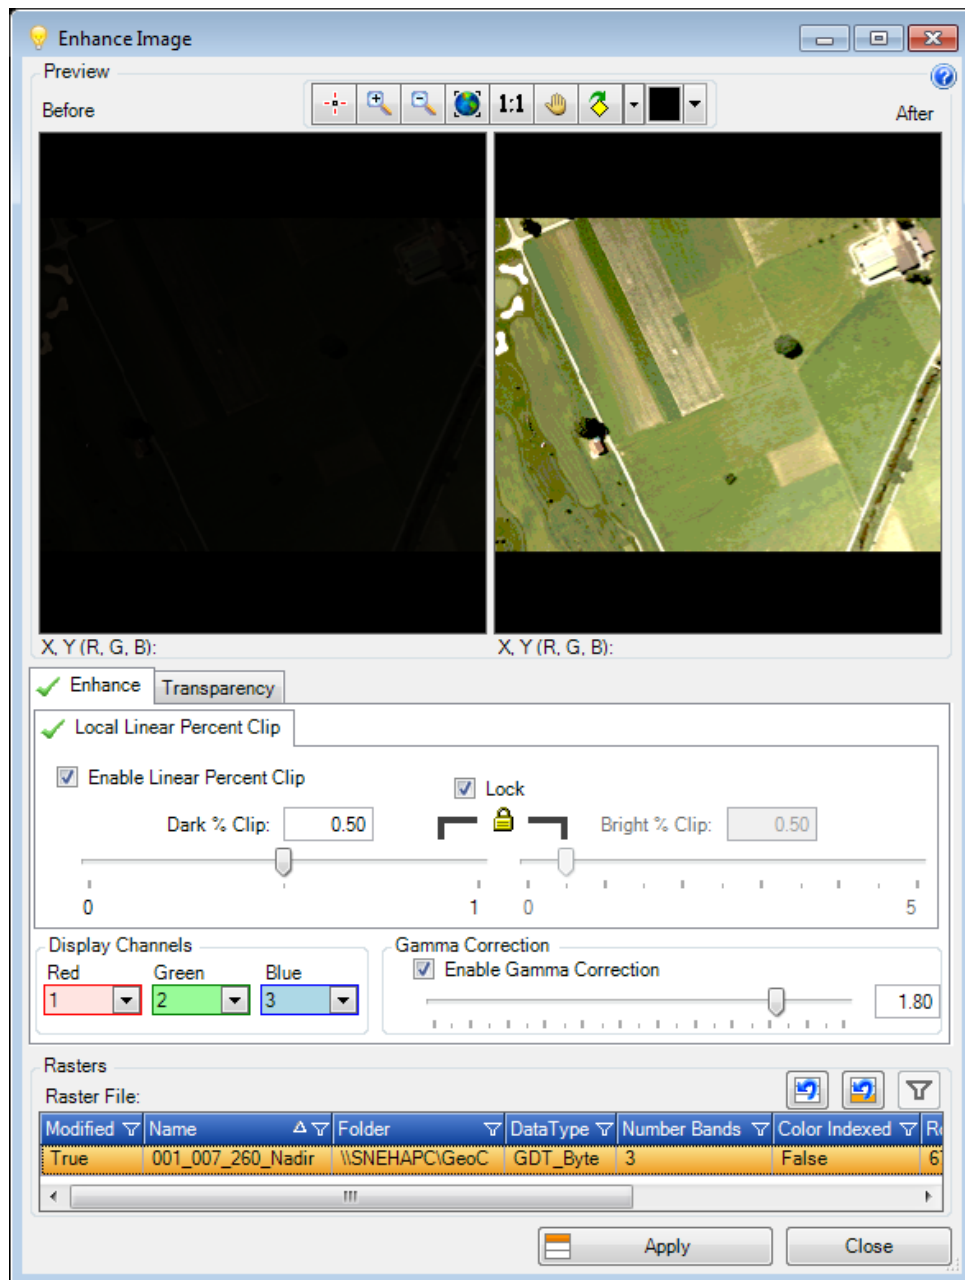

Fig. 1.15
- b) The 'Enhance Image' dialog (Fig. 1.15) will pop up, having two blocks – *Before* and *After* - being displayed on it, each being initially set to 'Image Generation in Progress' message (if not processed already). Meanwhile, in the background, the selected photo (if not developed) will be processed with *Offset | Gain | Gamma* values set to *0 | 1 | 1*.
- b) The 'Enhance Image' dialog (Fig. 1.15) will pop up, having two blocks – *Before* and *After* - being displayed on it, each being initially set to 'Image Generation in Progress' message (if not processed already). Meanwhile, in the background, the selected photo (if not developed) will be processed with *Offset | Gain | Gamma* values set to 0 | 1 | 1.